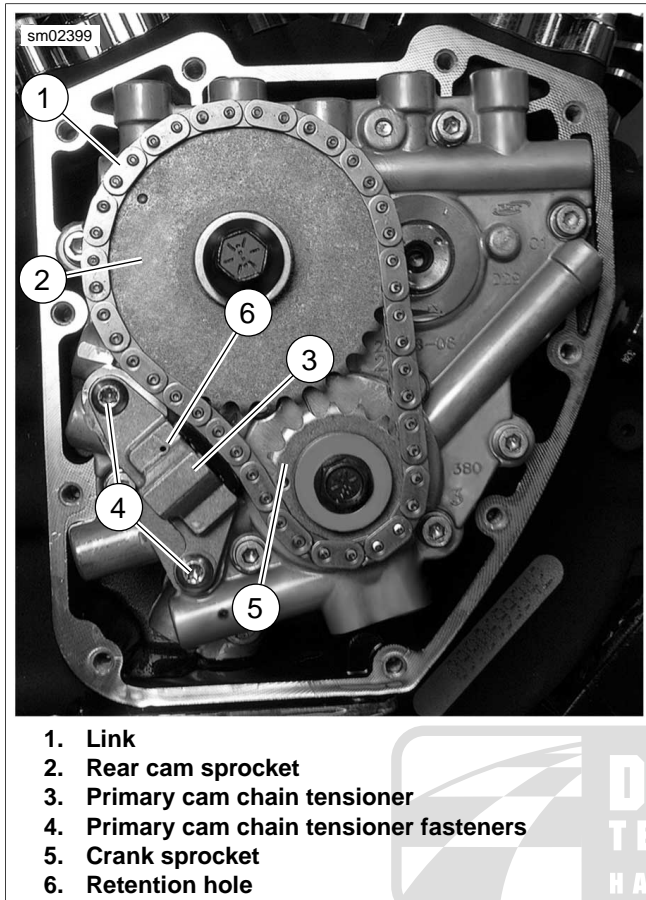

Figure 3-47. Cam Support Plate Assembly
1. See Figure 3-47. Using a colored marker, mark one of the links (1) of the primary cam chain. Maintaining the original direction of rotation during assembly may prolong service life.